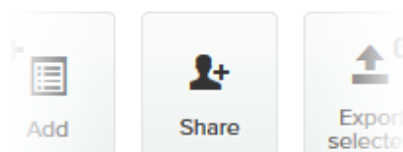

Figure 56. Plug-ins web page (Share button)
4. Click the **Share** button in the upper left-hand corner of the **Plug-ins** web page (Figure 56 (page 111)).